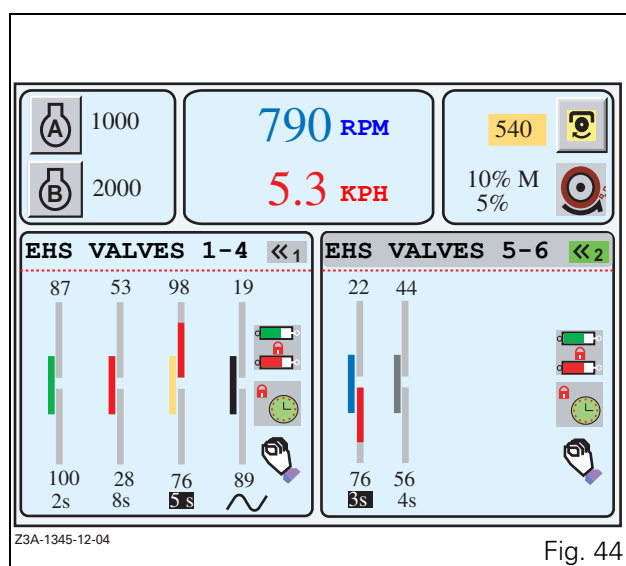

Fig. 44
- To display this menu, press key «₂ twice. The first press selects the window and the second press displays the list if no application was activated previously. On colour screens, the active window is indicated by the green icon at the top right-hand of the window (10 Fig. 44), and on b/w screens the active window is indicated by the same icon in reverse video.
- Validate by pressing the encoder or the key «₂. The window (Fig. 44) is displayed.